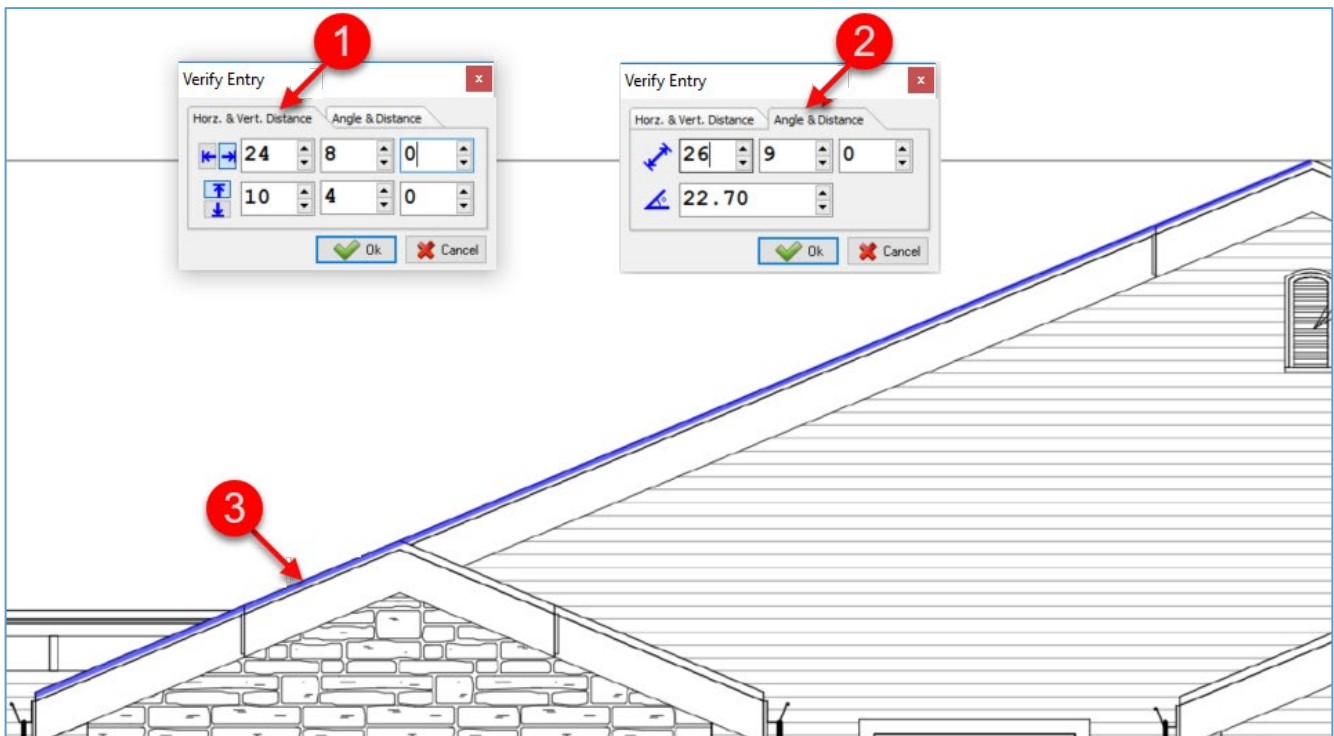

Figure 21-A
Verify Points can make takeoffs more accurate. To turn on **Verify Points**, click **Verify Points** or press **F6** on the keyboard. **Verify Points** will not work with **Freehand** enabled. With **Verify Points** enabled, each time you digitize a **Point**, a window will pop up called **Verify Entry**. The **Verify Entry** window (Fig. 21-A) has two tabs that allow you to specify distance and angles in two ways:
1. The **Horizontal & Vertical** tab allows you to specify by horizontal and vertical distances. In Figure 21-A, the roof line takeoff (see #3) in blue measures 24' 8" horizontally and 10' 4" vertically. If you want to change the values, enter the new values and click on **Ok**.
2. The **Angle & Distance** tab allows you to specify by slope angle and slope distance. In Figure 21-A, the roof line takeoff (see #3) slope distance is 26' 9"; its slope angle is 22.7 degrees. If you want to change the values, enter the new values and click on **Ok**.